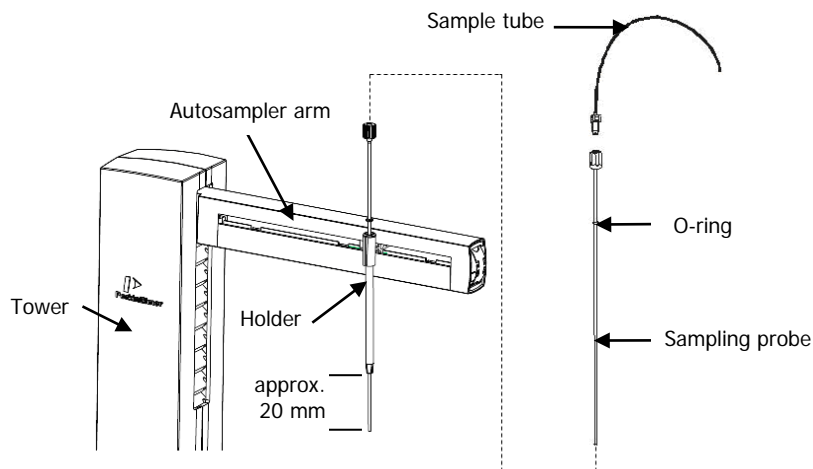

Figure 5 Fitting the sampling probe
1. If not already done, carefully insert the sampling probe guide from above into the sampling probe holder on the Autosampler arm and push it down fully, as shown in Figure 5.
3. Push the sampling probe down until about 20 mm protrudes from the bottom end of the probe guide, then position the O-ring on the probe to set this position, as shown in Figure 5.